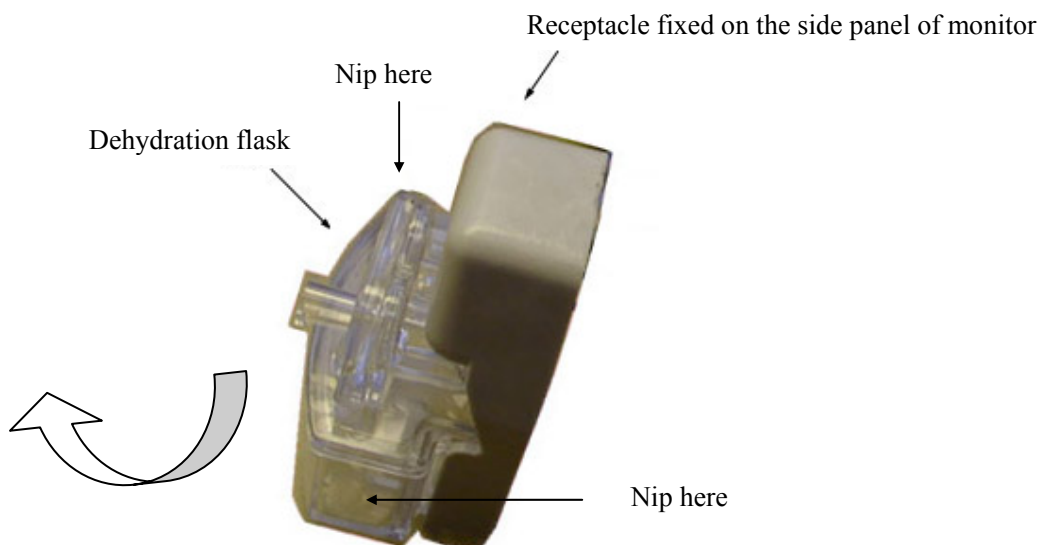

Fig.5-7-2 Remove sketch map of dehydration flask
- According to the Fig. 5-7-2, nip slantways the dehydration flask and disconnect from the receptacle fixed on the side panel of monitor. It will be remove the dehydration flask.